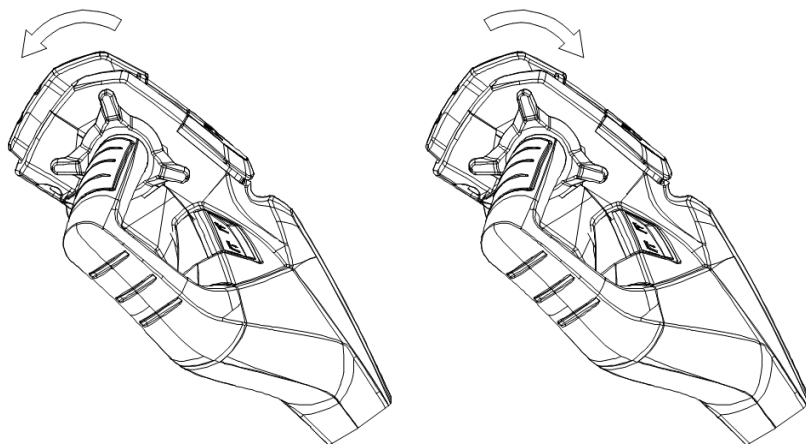

Fig.3
- Rotate the accelerate knob ,make the direction same as the truck movement, figure 3